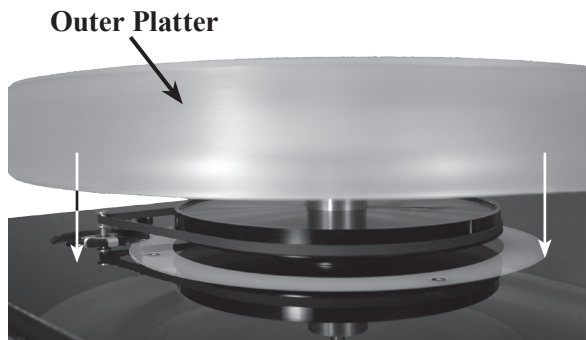

Figure 9
8. Next, take the Outer Platter and slowly lower it onto the previously installed spindle/inner platter assembly making sure to keep the Outer Platter parallel to the Turntable surface as it is being lowered. Refer to figures 9 and 10.